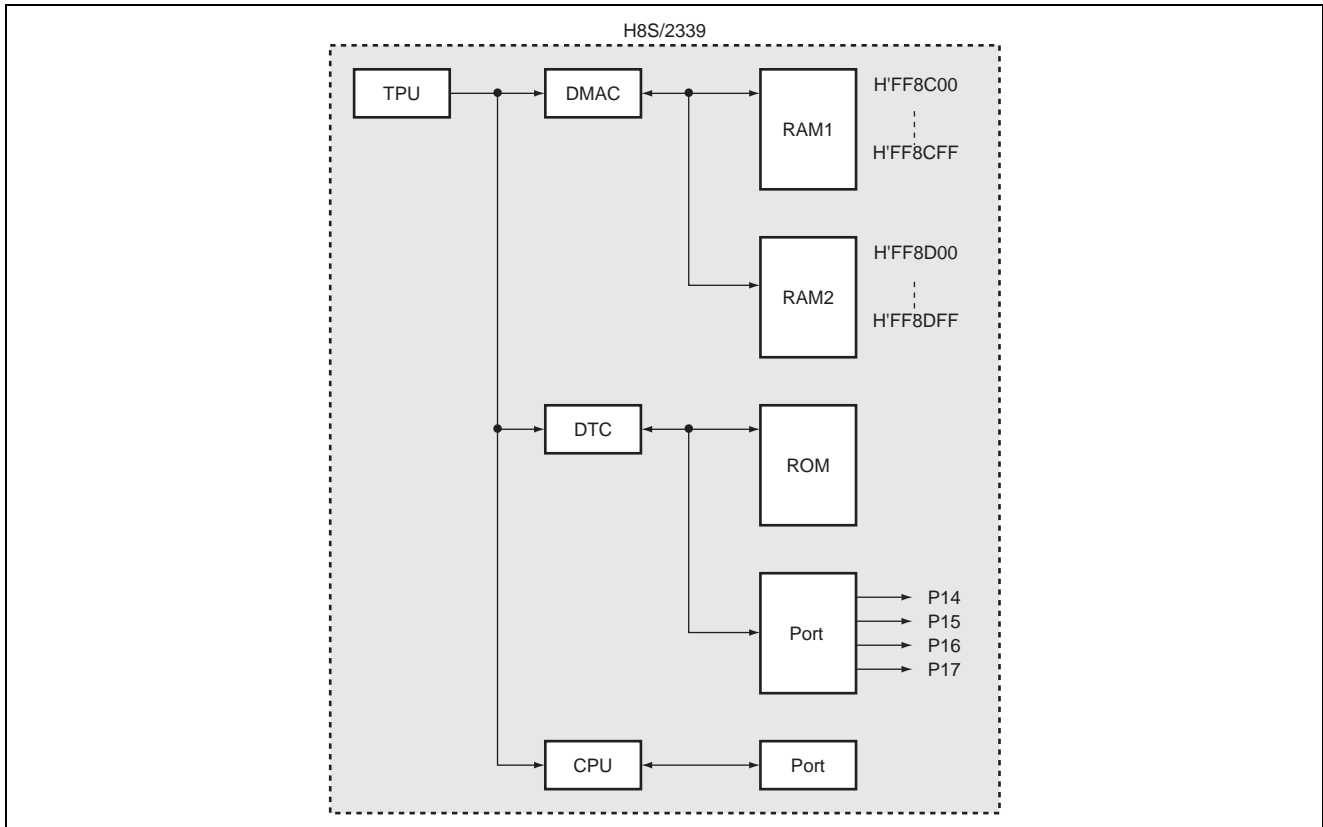

Figure 1 Block Diagram of Simultaneous Startup of DTC, DMAC, and CPU
1. As shown in figure 1, this sample task starts up DTC, DMAC, and CPU each time a timer compare match occurs. DTC transfers data to I/O Port from the data table (ROM) to output the pulses. The DMAC transfers 512-byte data stored in RAM1 to RAM2. The CPU monitors the state of the port. When the port goes high, the CPU stops DTC and DMAC transfer. An interrupt to the CPU continues to be enabled.